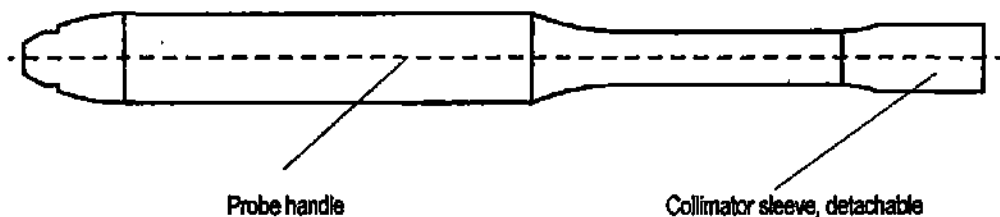

Fig.3: CXS-OP-SP probe
The probe shell is made from surgical stainless steel. The screwable tungsten collimator is integrated into the collimator sleeve (see Fig. 3). The mechanical structure of the probe is separated in two main parts:
- Collimator sleeves of probes CXS-OP-SP and CXS-OP-FP (FlexProbe®) (see Fig. 3 and 4) can be removed from the probe handle and steam sterilised separately (150°C steam at 4 bar, autoclave).